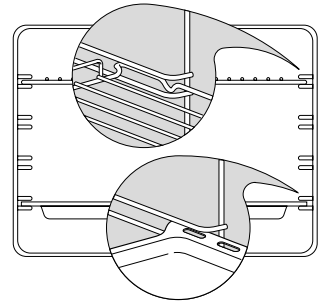

Fig. 36 Correct position of shelves and pan
- Put in the shelves and trays. If you are not using the sliding shelf supports, then slide in the shelves and grill pan as shown in Fig. 36. Fit them between the metal runners, with the safety stop notch down and at the back. (If the shelf supports and catalytic panels are not already fitted, see 'Care and cleaning' for how to do this).